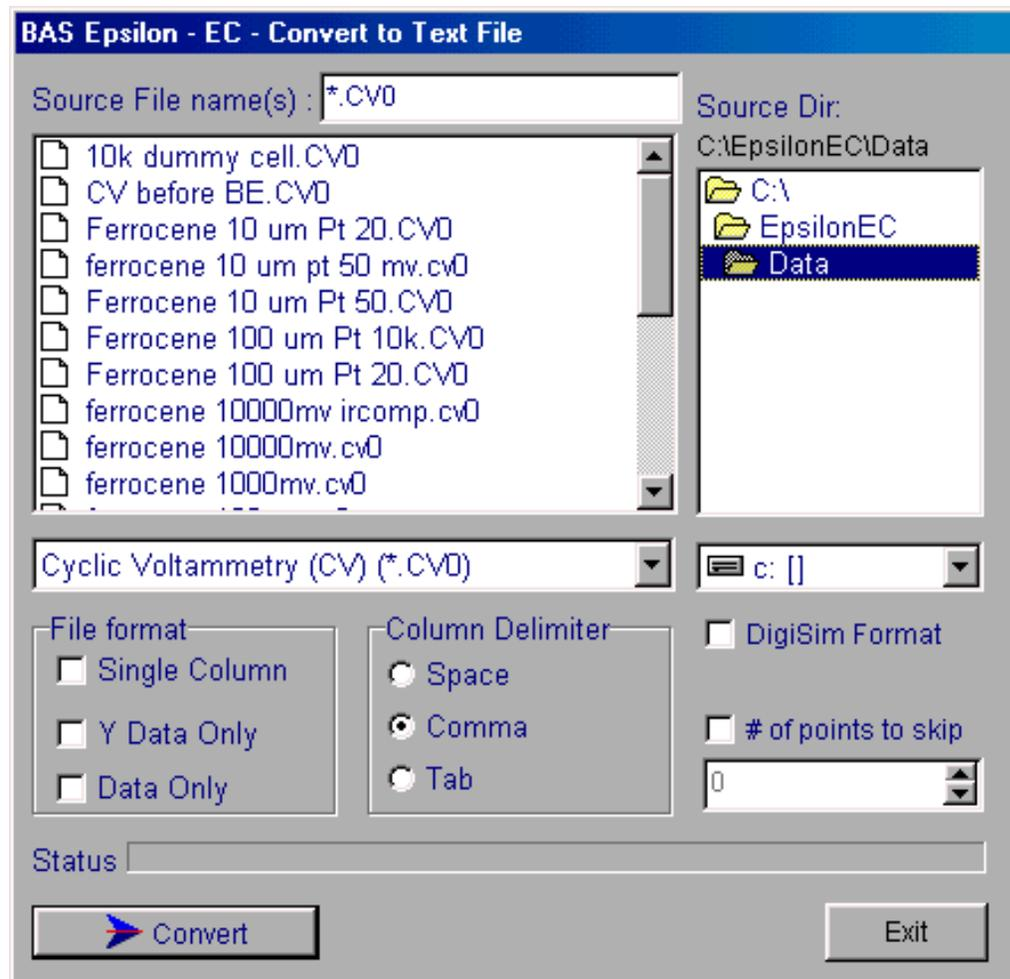

Figure 7. Convert to Text dialog box.
- Use **Save** in the **File** menu (or the **F4** key) to save the data in the active experiment window (it should be noted that the each technique has its own extension; for example, .cv0 for cyclic voltammetry). The data is saved in a binary format, but, once saved, it can be converted to a number of different text formats using **Convert to Text File** in the **File** menu (Figure 7). Select the file(s) to be converted, the format, and the delimiter, and then click **Convert** to start the conversion.